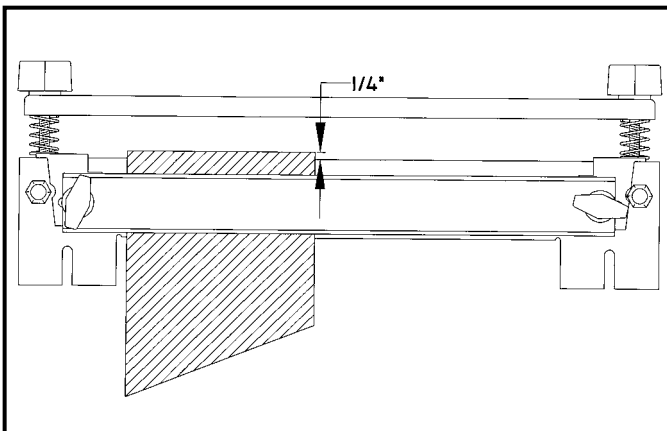

Fig. 6
1. Temporarily clamp the left side of the drawer "inside out" under front clamp bar and extending approximately 1/4" above top surface of machine as shown in Fig. 6.